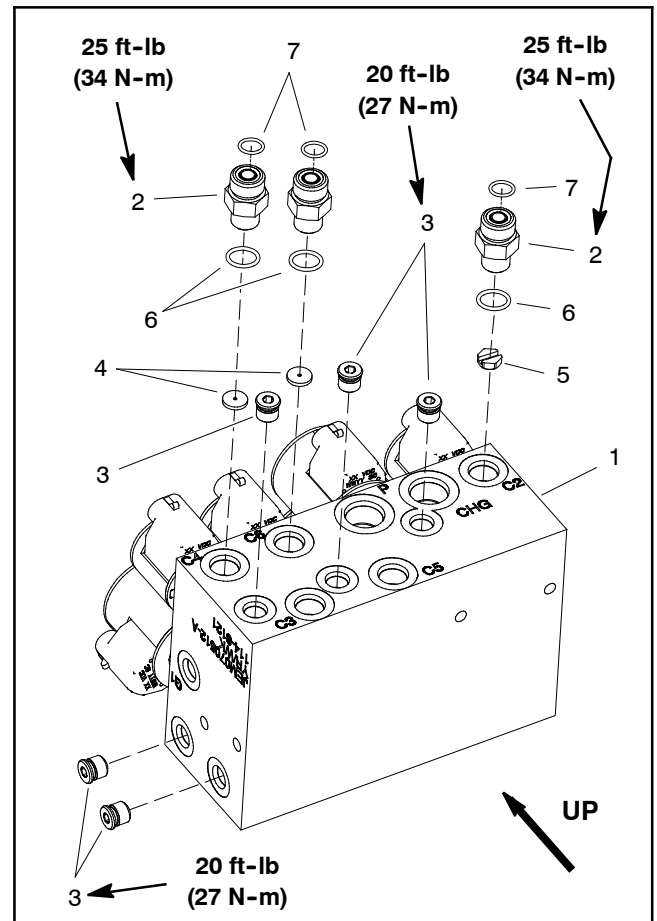

Figure 115
**IMPORTANT:** A flow control orifice is placed beneath several of the hydraulic fittings on the lift control manifold (Fig. 115). The lift manifold uses two (2) different orifice sizes. If a fitting is removed from the lift control manifold and an orifice is in the manifold port, make sure to remove orifice and label its position for assembly purposes. Also note location of groove in orifice for assembly purposes.
**IMPORTANT:** When installing orifice in manifold (Fig. 115), make sure that orifice is flat in the base of the manifold port. Manifold damage is possible if the orifice is cocked in the cavity.